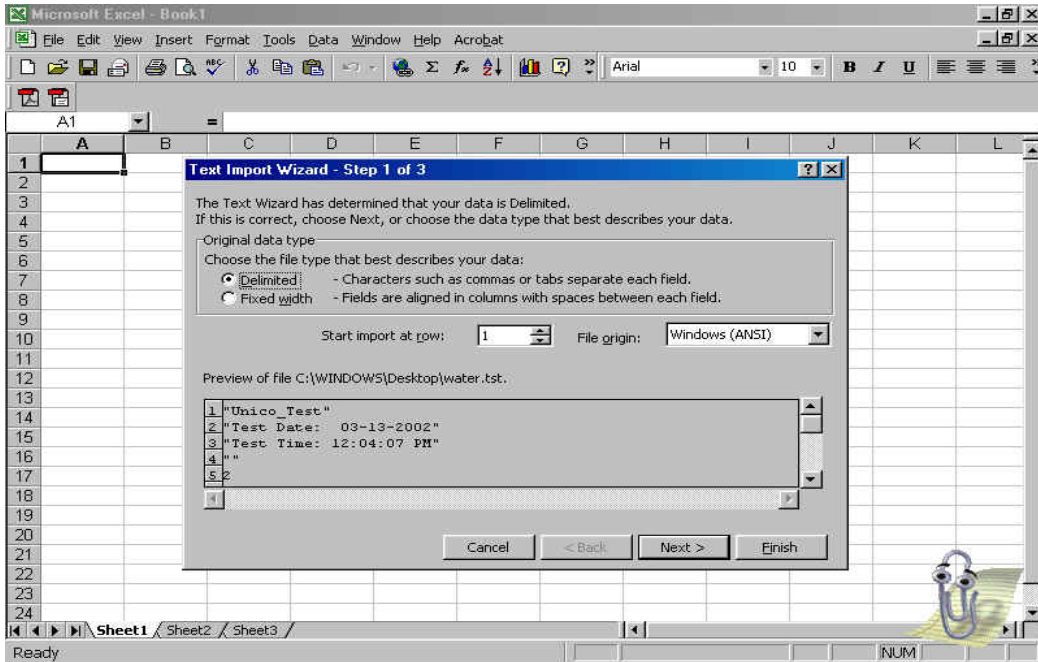

Figure-41 Excel Text Import Wizard
Step 3: After the Excel Text Import Wizard appears, select **Delimited**, select the row from which you want the import to start, and click on the **Next** button as shown in Figure-41.